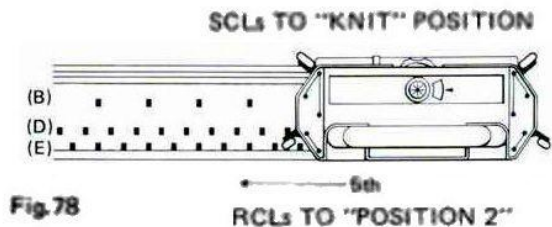

Fig.78
- (e) Carriage now on right. With the straight edge of the 3 x 1 selector plate push back into position (D) from position (E) every alternate holding needle.
Keeping the fabric back against the sinker plate, at the same time push forward into position (E) from position (B) every 4th needle starting with 2nd needle from right end. (Fig.78)